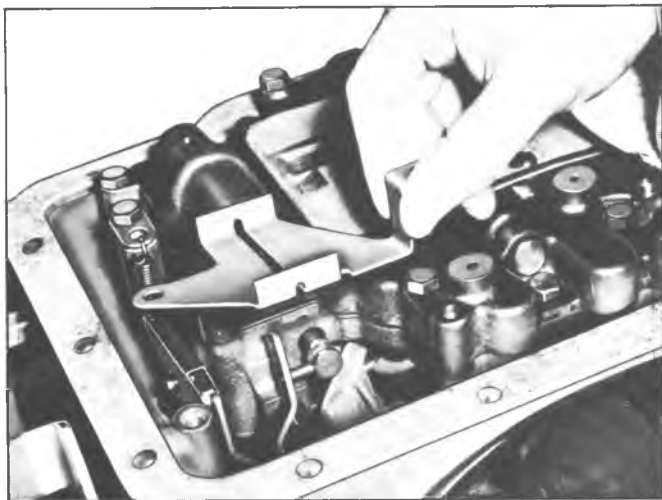

Fig. 34PG--Installing Detent Guide Plate
31. Install the guide plate (fig. 34PG) making sure that the inner lever properly picks up the manual valve. Install attaching bolts.